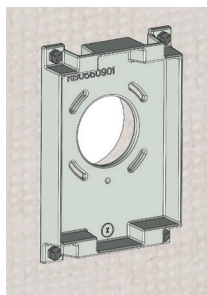

Figure 13b
11. Place the entire light fixture/cover plate assembly onto the base plate (Figure 13b) and have someone tighten the top (2) 3/8" x 1-1/4" stainless steel recessed hex set screws (See Figure 17) until 3/8" to 1/4" of the screw threads are still visible, then the bottom set screws.